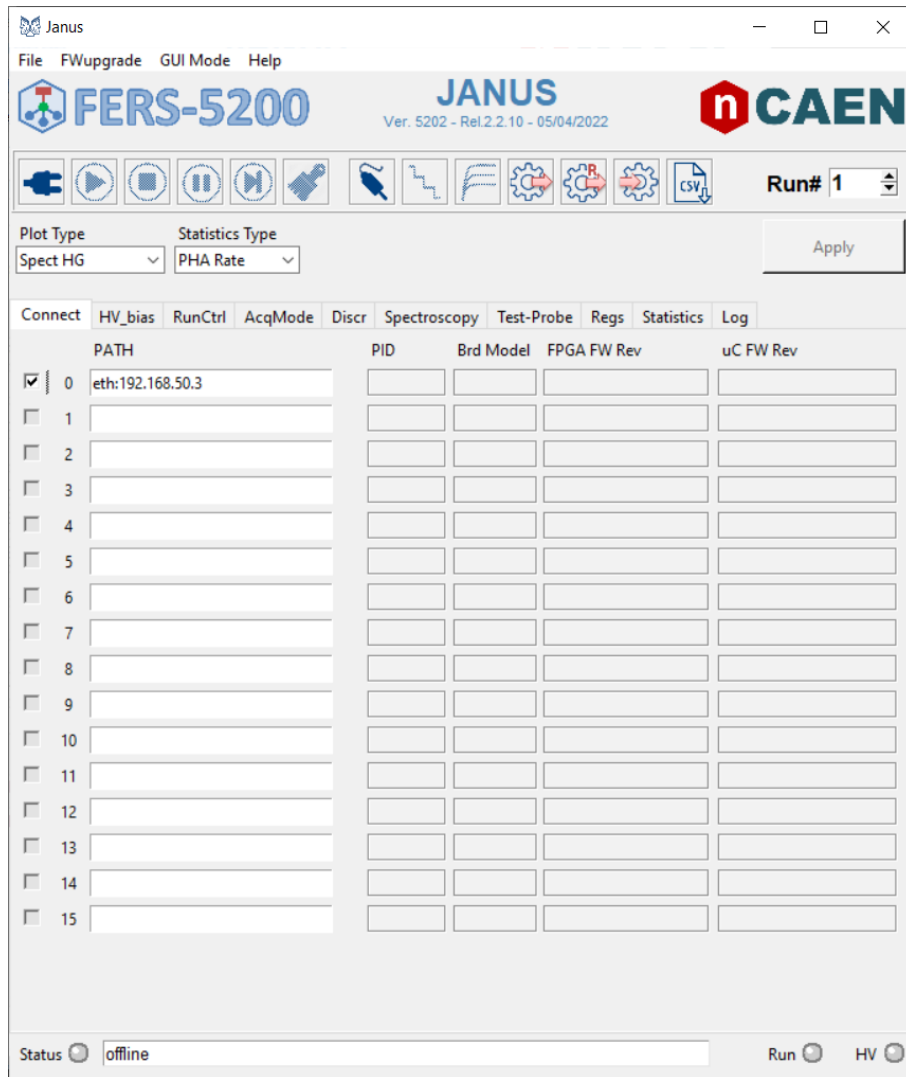

Fig. 10.15: Starting window of the Janus software GUI.
3. Double click on the **JanusPy.pyw** executable file. No installation steps will be required and a window similar to the one in Fig. 10.15 will be opened. The connection between the software and the board is not yet established.
- "eth:192.168.50.3" (as it is shown in Fig. 10.15) or another Ethernet address in case this was changed (see Sec. 10.2.1).